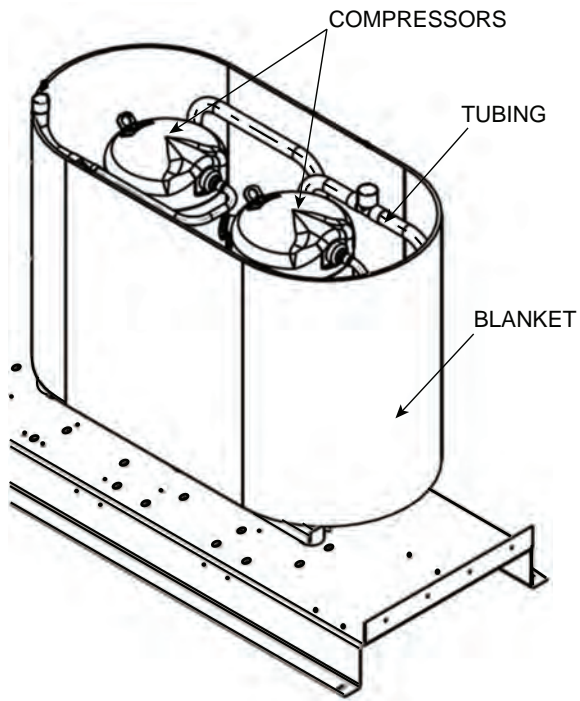

**Fig. 9 — Compressor Access Doors
- a. Open the compressor access doors. See Fig. 9.